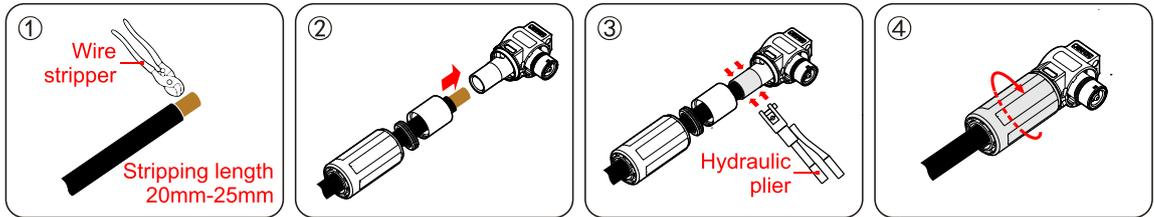

Figure3-21 Crimp DC cables
Step 2 Crimp the battery +, - wires into the aviation plugs, as shown in Figure3-21.